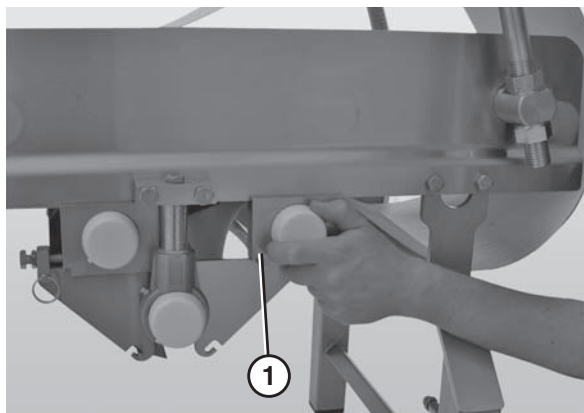

Figure 46
4. Slide the tension spindle assembly (**Figure 46, item 1**) out of the housing.